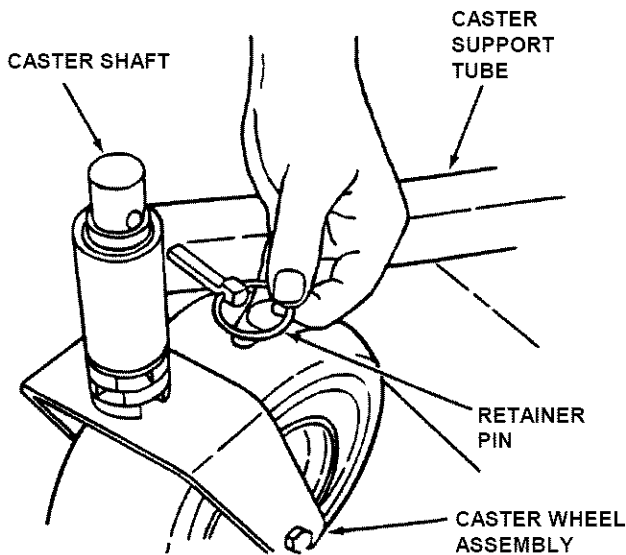

FIGURE 3.12
1. Remove the Retainer Pin from Caster Shaft. See Figure 3.12.